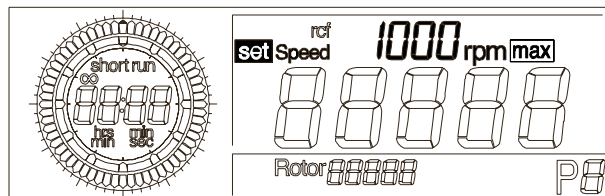

Fig. 5.12:
- Turn the left rotary knob until the “set” cursor appears in front of the parameter “Speed” on the display (Fig. 5.12).